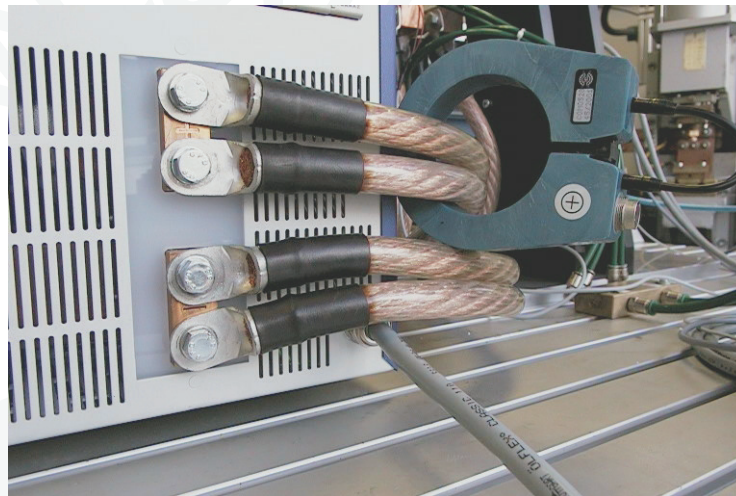

Fig. 7: Application example with a built-in flap toroid coil
- Install the flap toroid coil or toroid coil in the (+) line of the current source (Fig. 7). Ensure that the (+) side of the coil show points in the direction of the current source (+) terminal.